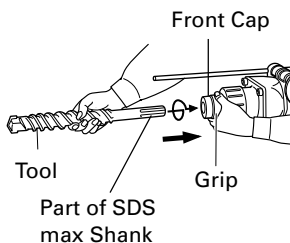

Fig. 2
(1) Clean, then smear the tool shank with the grease provided in the green tube.
- (2) To attach the tool (SDS max shank), insert it into the hole until it contacts the innermost end of the hole as illustrated in Fig. 2.